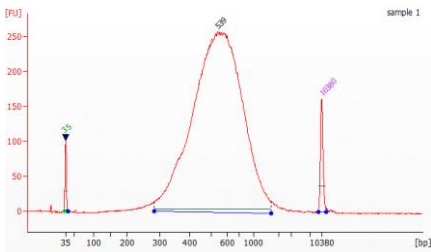

Figure 2 Agilent 2100 Bioanalyzer results of 1000 ng gDNA ( dissolved in pH8.0 1X TE buffer )
**Note:** In the two-step magnetic beads size selection, the DNA sample loss can be as high as 75% to 90%. For important samples, you may retrieve the beads from the first bead selection process, then wash twice with 80% Ethanol. Air dry the beads pellet, elute DNA with En-TE Buffer, and store as a backup. For the demo test, it is recommended to take 1  $\mu\text{L}$  of step 3.3.1.15 eluted product for Agilent 2100 High Sensitivity test (Figure 2), to make sure the peak size of the selected fragments about 450 bp to 600 bp. It should be noted that the peak size of the sequenced library is normally smaller than the peak size shown in the Agilent 2100 Bioanalyzer.